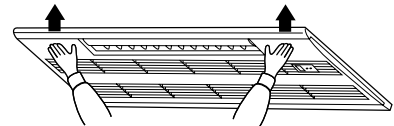

Figure 2
- (2) Pull out the handle of air intake grille strong toward you. (See figure 2)